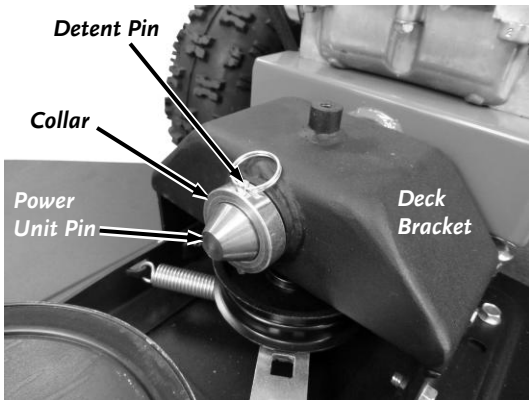

Figure 28
6. Remove the Collar and Detent pin (**Figure 28**).